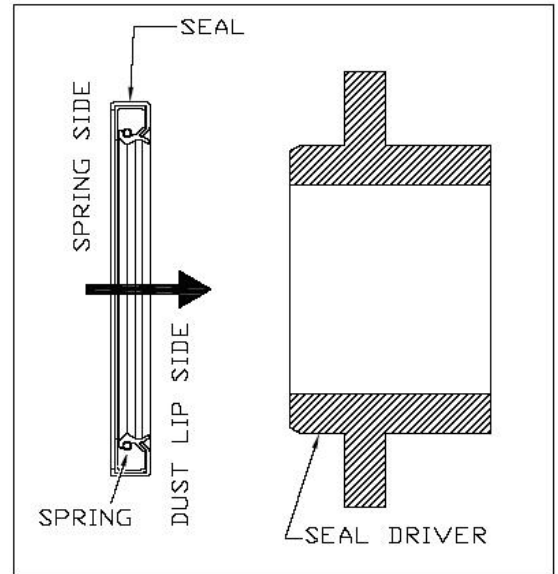

Figure 104
7. Place seal on seal driver tool as shown in **Figure 104** below, ensuring the spring side is facing away from the seal driver tool. For top input and rear output locations, use seal (732-0467),